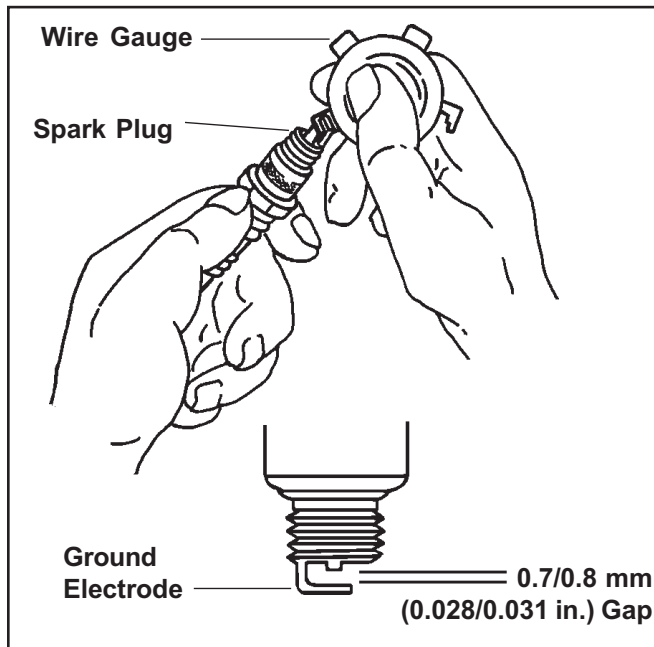

Figure 14. Servicing Spark Plug.
3. Check the gap using a wire feeler gauge. Adjust the gap to **0.7/0.8 mm (0.028/0.031 in.)** by carefully bending the ground electrode. See Figure 14.